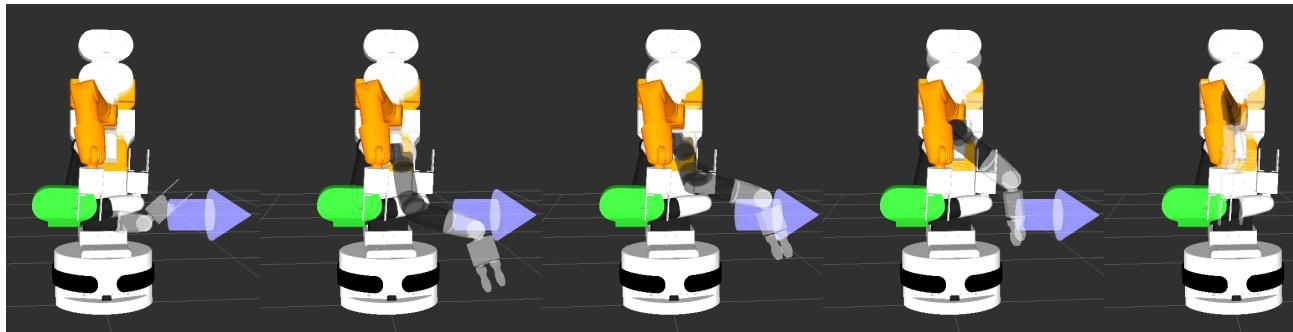

Figure 133: Example of plan found with the object in the scene.
4. (Optional) To execute such a motion, go the “Context” tab and click “*Publish current scene*”. This is necessary for the planning environment in the GUI to be moved to the one used by *MoveIt!* for planning. Go to the “Planning” tab again, and now move the arm to a position. Since this setup can be a very complex one for the planner, it might fail at the first attempt. Keep re-planning until it is successful. A succesful plan for the current example is shown in figure 133.